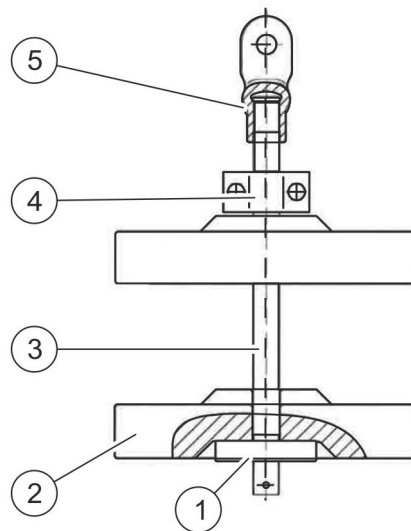

Fig. 12: Set of weights, cross section
Carefully screw the joint (Fig. 12/5) onto the weight rod and make sure that the thread is fully countersunk.
Hook the strap on the weight rod (Fig. 12/3) onto the forks of a forklift.
Secure all the weights with the clamp (Fig. 12/4).
4. → Hook the strap on the weight rod (Fig. 12/3) onto the forks of a forklift.